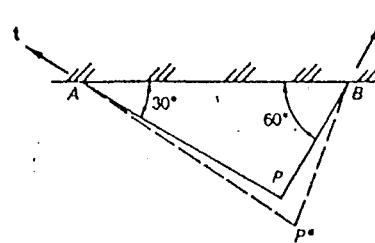

Fig. P2.34
2.34. A thin plate is in the form of a 30° - 60° - 90° triangle and is supported along its hypotenuse as shown in Fig. P2.34. It is subjected to the uniform strains $\epsilon_x = .004$, $\epsilon_y = .003$. Compute the approximate value of $\gamma_{tt}(P)$.